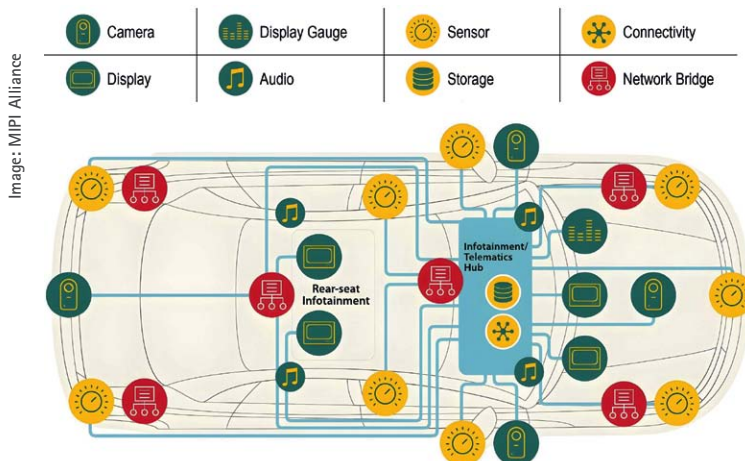

Figure 1: Distribution of cameras and displays in modern vehicles
The proliferation of cameras and displays in modern vehicles has revolutionized the driving experience, facilitating advanced safety features, enhanced navigation systems, and new entertainment options (Fig. 1). However, the growing number of these components poses a significant challenge for car manufacturers: ensuring seamless connectivity and interoperability between the various systems. One of the biggest challenges is managing local connectivity within the vehicle.
SEN6x from Sensirion combines multiple sensor technologies in one compact package and can measure up to nine environmental parameters – particulate matter (PM1, PM2.5, PM4, and PM10), humidity (relative humidity, RH), temperature (T), VOC index, NOx index, CO2, or HCHO (Fig. 1). The humidity and temperature components provide precise measured values for a healthy and pleasant indoor climate. Additionally, integrated compensation mechanisms help offset temperature and humidity fluctuations that impact the measuring accuracy.
Figure 1: Sensing opens up new possibilities to create smarter devices that improve our comfort and well-being as well as increase energy efficiency in a wide variety of applications.